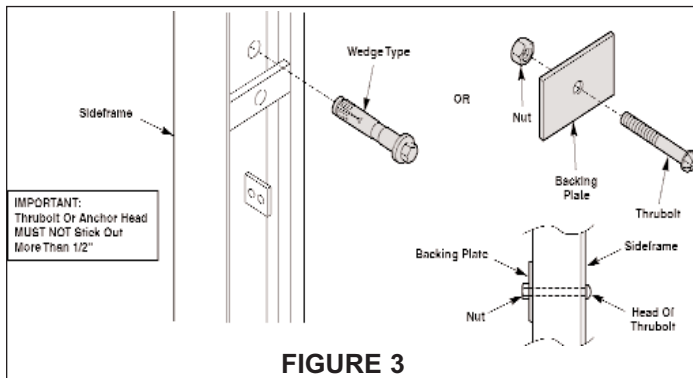

FIGURE 3
- Using the pre-drilled holes in the base plate and the sideframe as a guide drill the holes. Thru-bolting is recommended using a backing plate. Be sure the anchor bolt heads do not interfere with the belts and other moving parts, **Figure 3**.